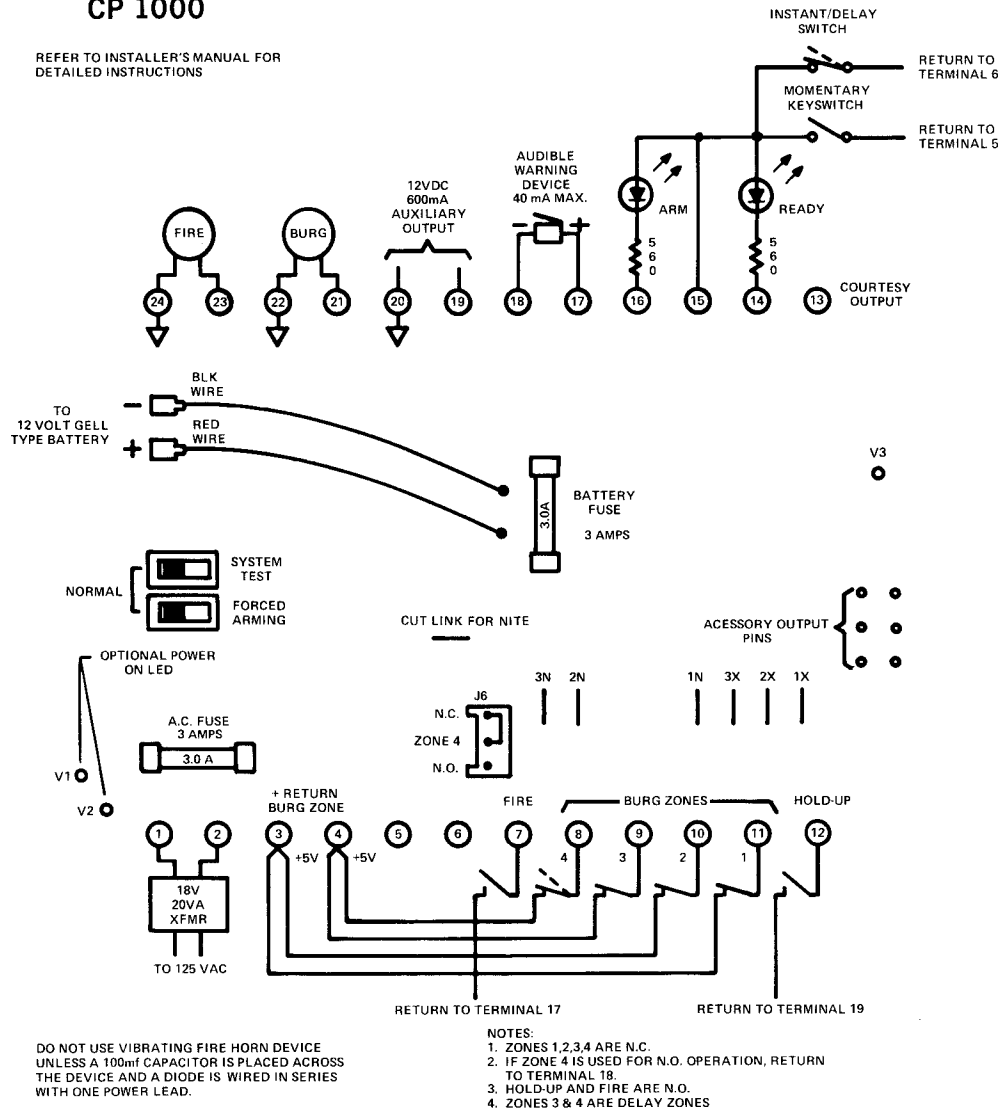

Figure 1
Day/Night Features — The CP1000 is shipped from the factory configured for day operation. In this mode, the pre-entry output is activated when the panel is disarmed and zone 1 or zone 2 is violated. The panel must be armed and disarmed to deactivate the pre-entry output. Normal operation (night) may be restored by cutting the day jumper as shown in Figure 1.
2. Wire input zones as shown in wiring diagram Figure 1 or inside of panel.
4. Make sure link in J6 jumper (Figure 1 or inner cover wiring diagram) is in proper position for zone 4 wiring. Link is shown for normally closed (closed circuit wiring). For normally open (open circuit operation) move link. Make sure loop is returned to terminal 18.